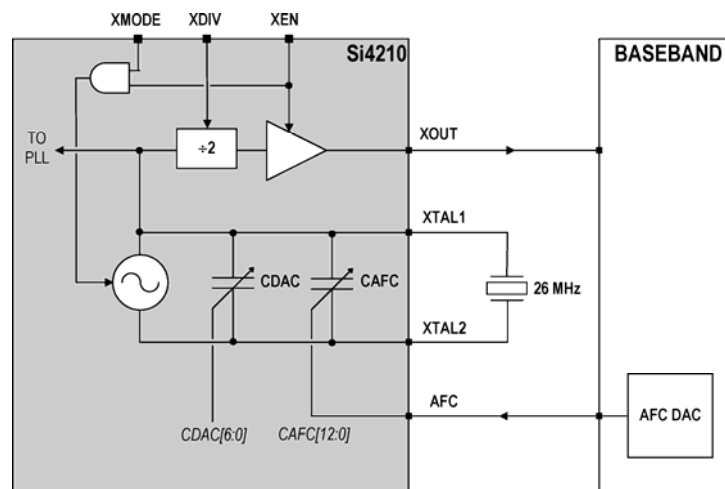

Figure 6: Aero II 26MHz clock circuit
- Figure 6: Aero II 26MHz clock circuit 11
As shown in Figure 6, the Aero II transceiver integrates the DCXO circuitry required to generate a precise system reference clock using only an external crystal resonator. The DCXO replaces a discrete VC-TCXO module. The DCXO allows for the use of a standard 26 MHz crystal. There are no external varactors or trim capacitors required.